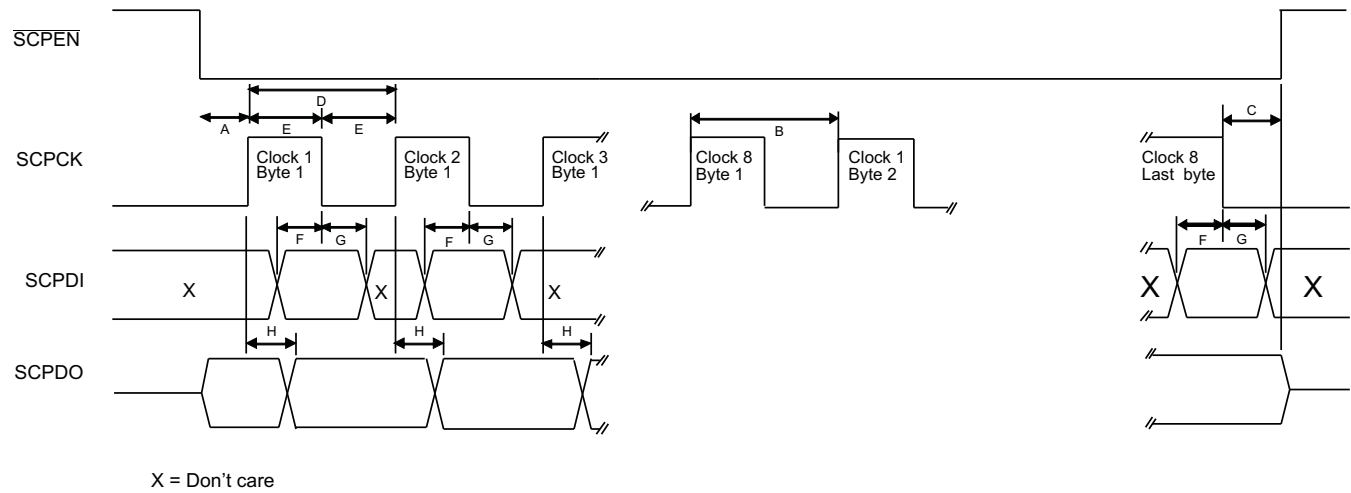

Figure 1. Serial Interface Timing
(1) See Figure 1
(2) There is no minimum speed for the serial port. It can be written to statically for diagnostic purposes.